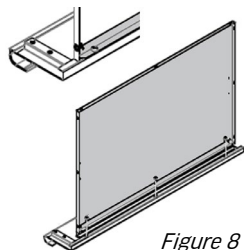

Figure 8
15. Attach the drawer's bottom panel (#14-1) to the angled ridge on the front drawer (#14-2) with three M4 x 10 screws (#3). The folded edges of the bottom panel face outward (Fig. 8).